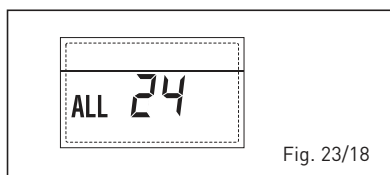

Fig. 23/18
– **ANOMALIE SONDE BOUILLLOIRE SOLAIRE (S2) “ALL 25”** (fig. 23/19)